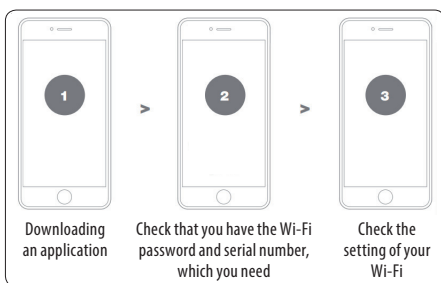

Figures Q1
- Insert the USB flash disk into the port. (see fig. Q1)